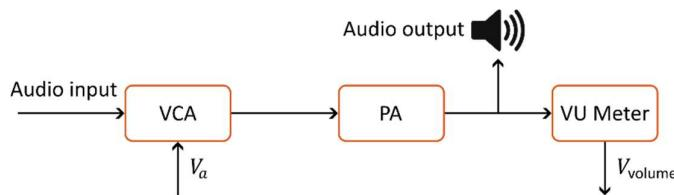

Fig. 8.1. Block diagram of the manual volume-controlled audio amplifier system.
The complete audio amplifier system is built by connecting the voltage-controlled amplifier (VCA), power amplifier (PA), and volume unit meter (VU Meter) subsystems as shown in Fig. 8.1. The combined system is a manual volume-controlled system where an operator needs to adjust V_a to control the loudness based on the VU Meter reading. As there is no feedback path, it can be considered as an open-loop system.